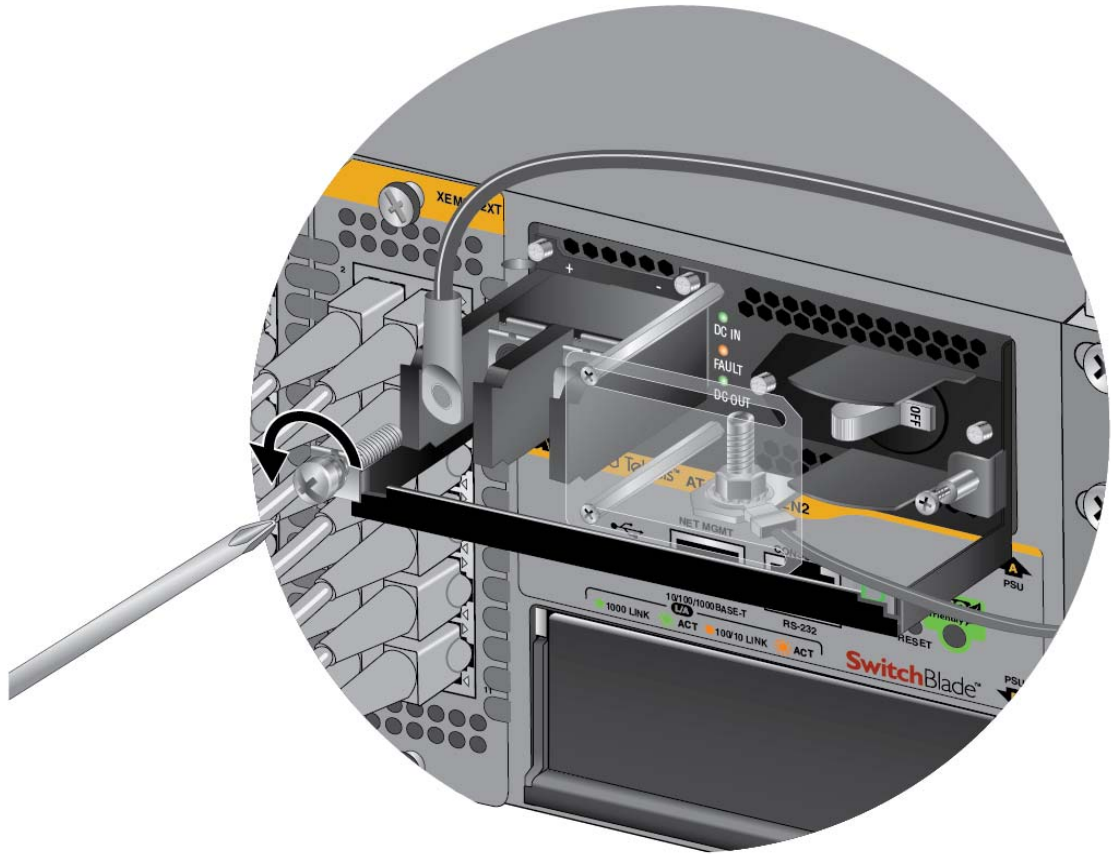

Figure 99. Removing the Positive Lead Wire from the Terminal Block
6. Use a #3 screwdriver to remove the positive (+) lead wire from the terminal block. Refer to Figure 99 on page 137.